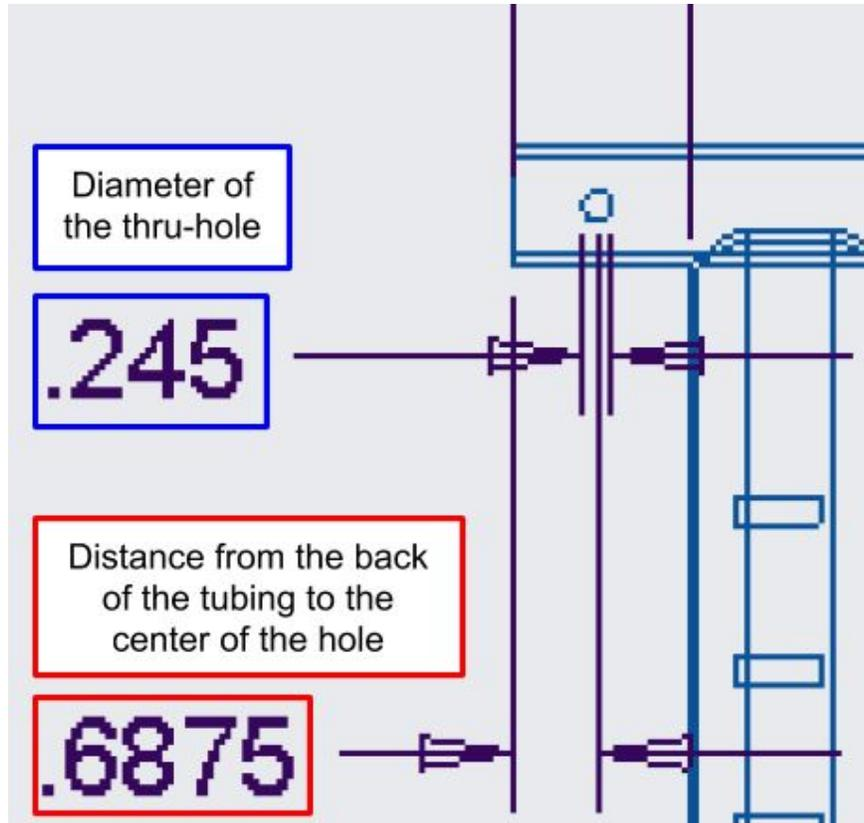

Figure 23. A close-up of the straight handlebar engineering drawing, showing the location and depth of the thru-holes for the backrest attachments.
10. Mill out the backrest attachment thru-holes as seen in Figure 23 (from the engineering drawing for “Straight Left/Right Handlebar”). Mill through the BOTH the rubber handlebar grips and the metal handlebar tubing.